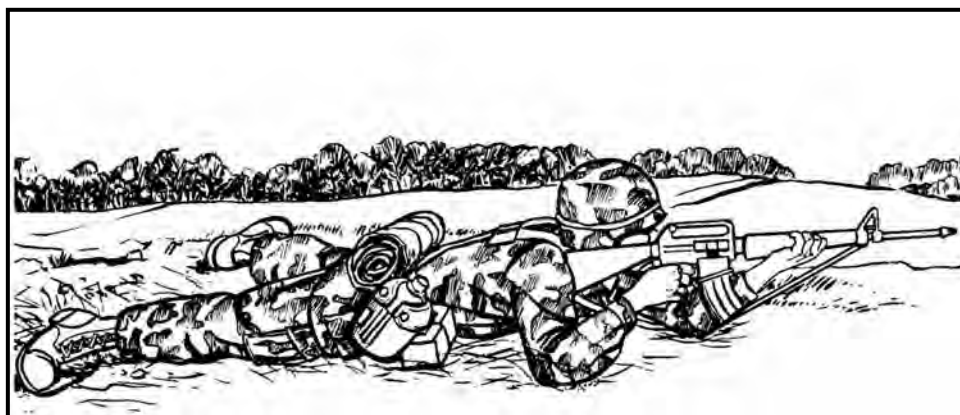

Figure 4-23. Basic prone unsupported firing position.
b. **Basic Prone Unsupported Firing Position.** This firing position (Figure 4-23) offers another stable firing platform for engaging targets. To assume this position, the soldier faces his target, spreads his feet a comfortable distance apart, and drops to his knees. Using the butt of the rifle as a pivot, the firer rolls onto his nonfiring side, placing the nonfiring elbow close to the side of the magazine. He places the rifle butt in the pocket formed by the firing shoulder, grasps the pistol grip with his firing hand, and lowers the firing elbow to the ground. The rifle rests in the V formed by the thumb and fingers of the non-firing hand. The soldier adjusts the position of his firing elbow until his shoulders are about level, and pulls back firmly on the rifle with both hands. To complete the position, he obtains a stock weld and relaxes, keeping his heels close to the ground.